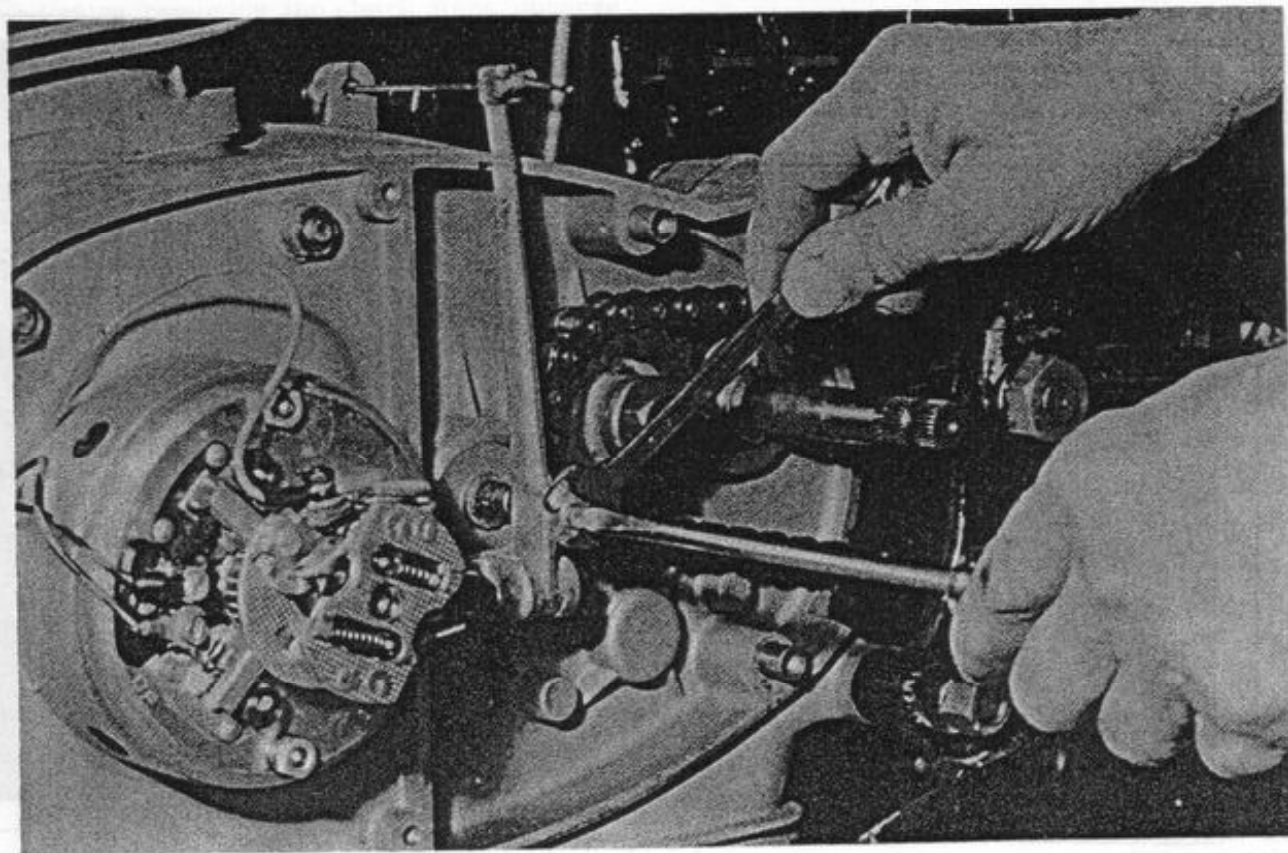

Figure 13.
2. If the clutch control lever, reference number 94 in exploded view T.2, hits either the crankcase or cover when operated, loosen the nut and adjust the set screw as shown in Figure 13.